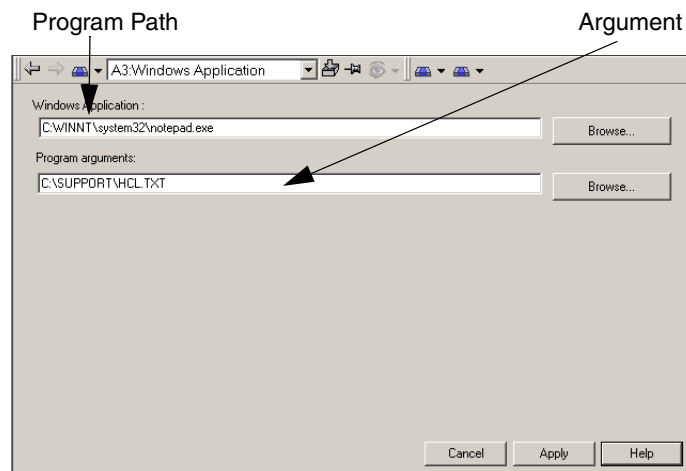

Figure 244. The Windows Application Aspect Dialog Box
2. Open the Windows Application aspect and its Config View. See Figure 244.
4. If the application takes arguments, enter these in the **Program Arguments** field (see Figure 244).